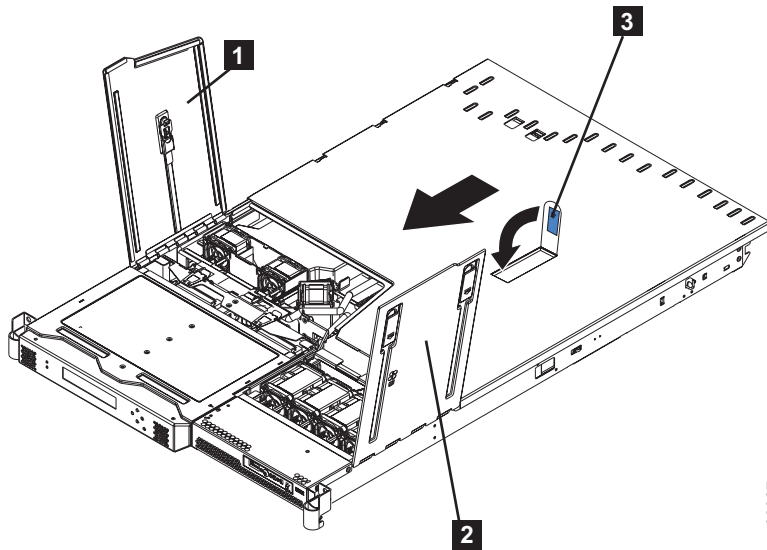

Figure 75. SAN Volume Controller 2145-8F2 with the access doors open
3. Press down on the cover release latch **3**, which is shown in Figure 75, until the cover properly engages all the inset tabs on the SAN Volume Controller 2145-8F2.